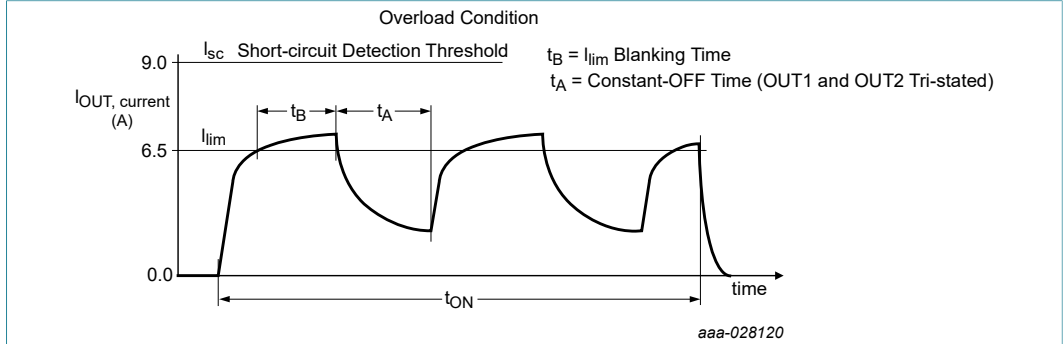
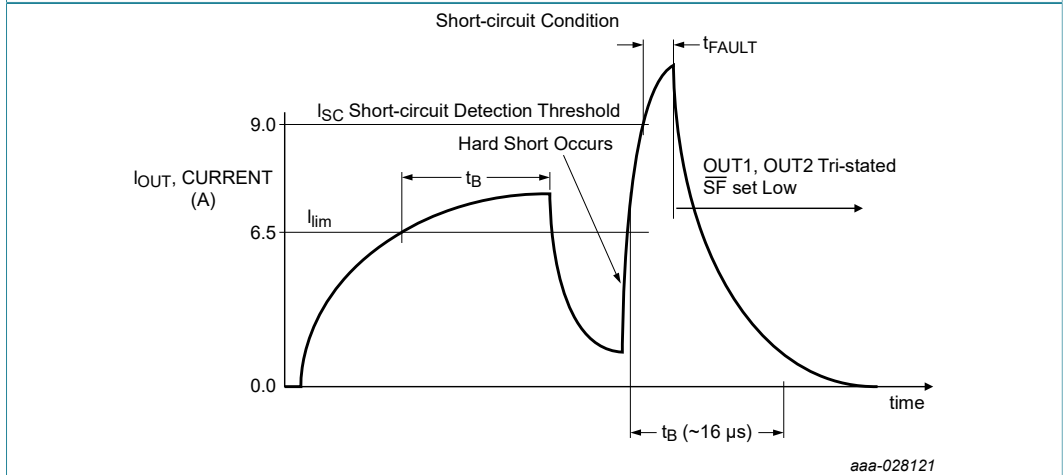
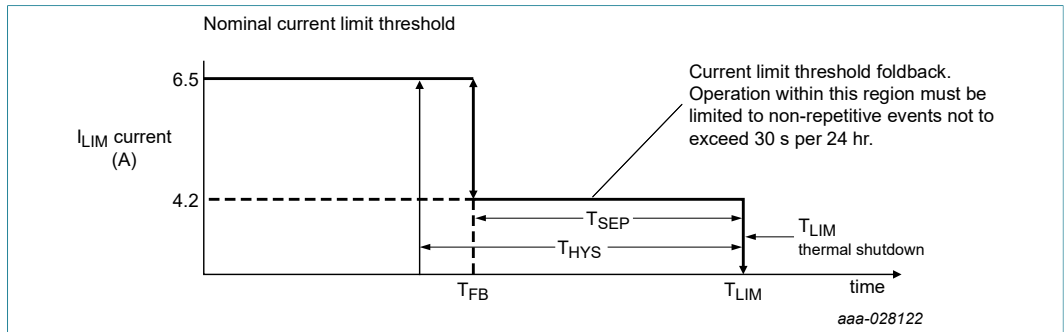

Figure 8. Current limit blanking time and constant-off time
Figure 9. Short-circuit detection turn-off time t_{FAULT}
Figure 10. Output current limiting foldback region
- [9] Load currents ramping up to the current regulation threshold become limited at the I_{LIM} value (see Figure 8). The short-circuit currents possess a di/dt that ramps up to the I_{SCH} or I_{SCL} threshold during the I_{LIM} blanking time, registering as a short-circuit event detection and causing the shutdown circuitry to force the output into an immediate 3-state latch-off (see Figure 9). Operation in current limit mode may cause junction temperatures to rise. Junction temperatures above $\sim 160\text{ }^\circ\text{C}$ causes the output current limit threshold to "foldback", or decrease, until $\sim 175\text{ }^\circ\text{C}$ is reached, after which the T_{LIM} thermal latch-off occurs. Permissible operation within this foldback region is limited to non-repetitive transient events of duration not to exceed 30 seconds (see Figure 10).